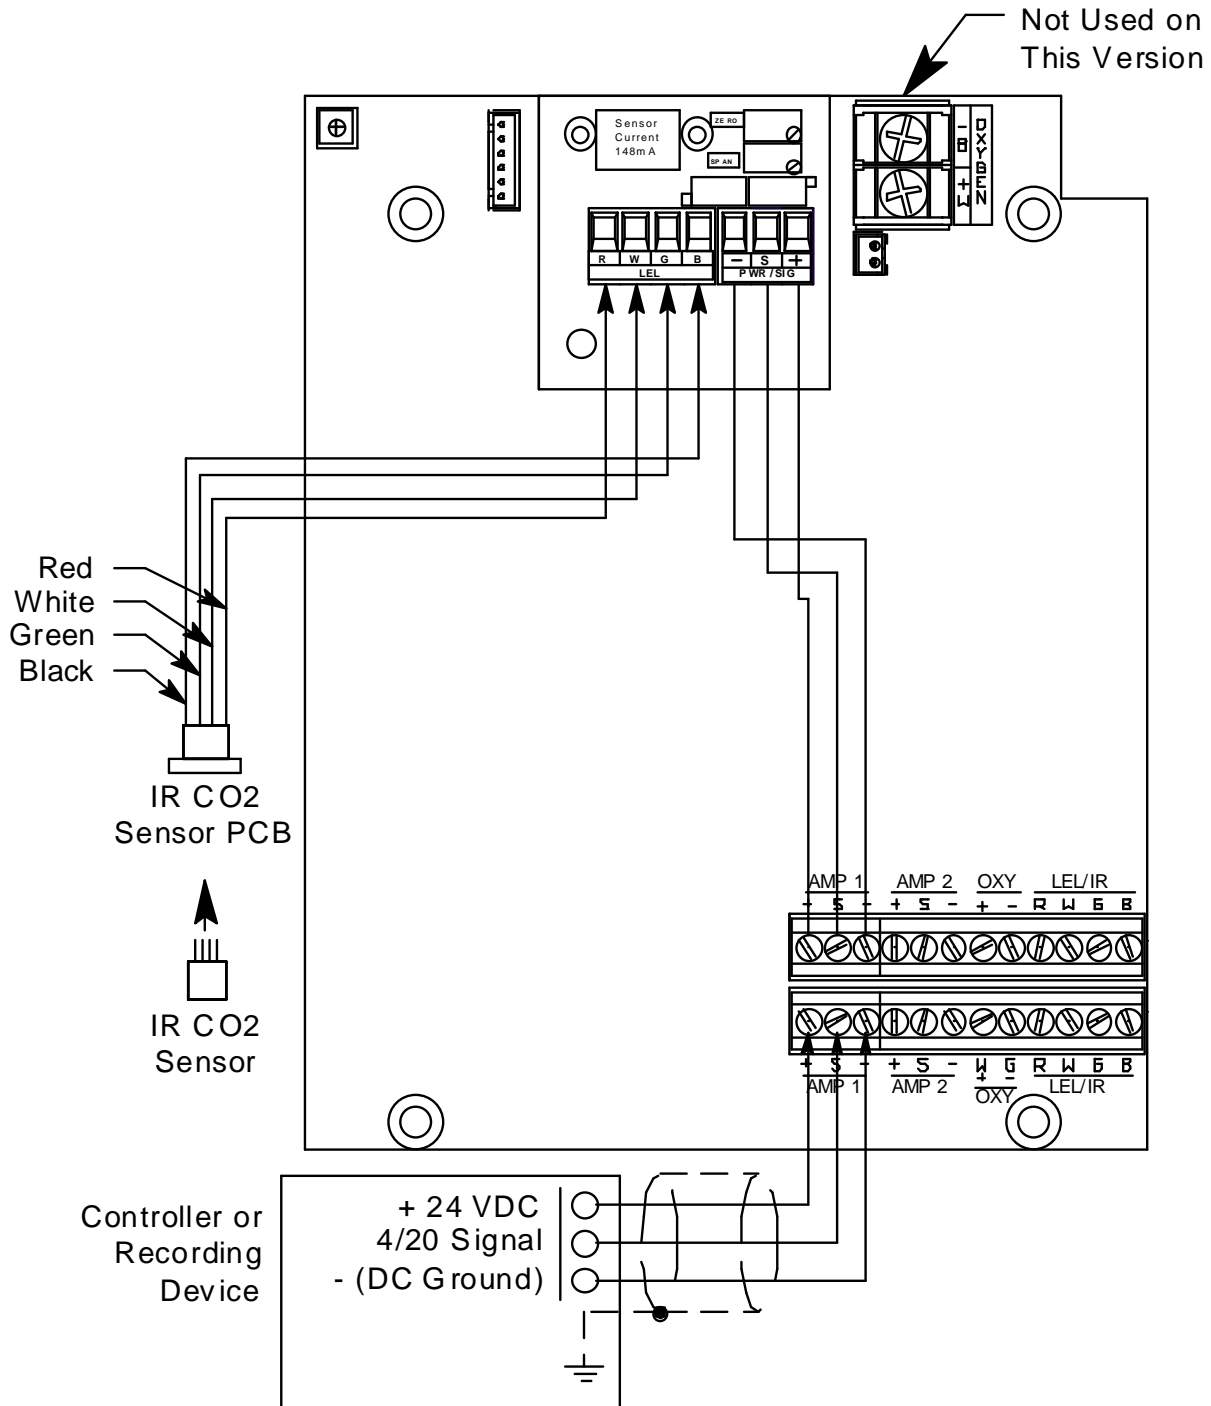

Figure 4: Wiring the Sample-Draw Detector to a Controller
5. Connect the cable to the sample-draw detector’s interconnect terminal strip as shown in Figure 4.
- Connect the wires to the applicable detector/transmitter terminal strip at the controller as shown in Figure 4. Refer to the controller operator's manual and the controller detector head specification sheet for the 35-3001A-05-02 for detector/terminal strip connections specific to the controller.